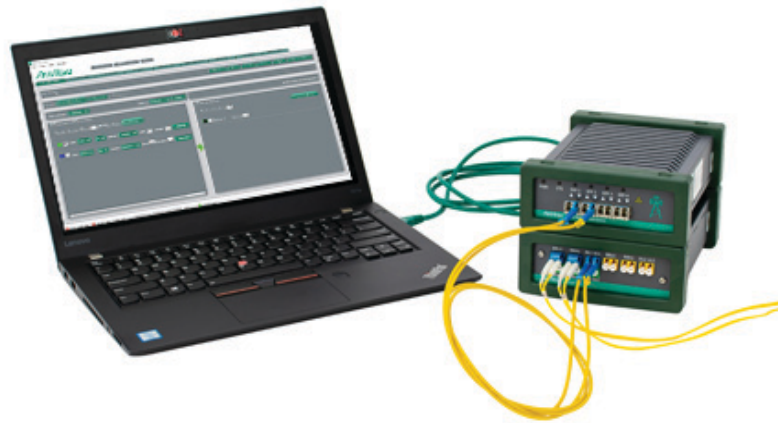

Figure 2-7. IQ Fiber Master Sensor and Tap Connected to computer
1. Power on the IQ Fiber Master analyzer and verify if the sensor is connected (refer to the status line at its bottom). See Figure 2-7.